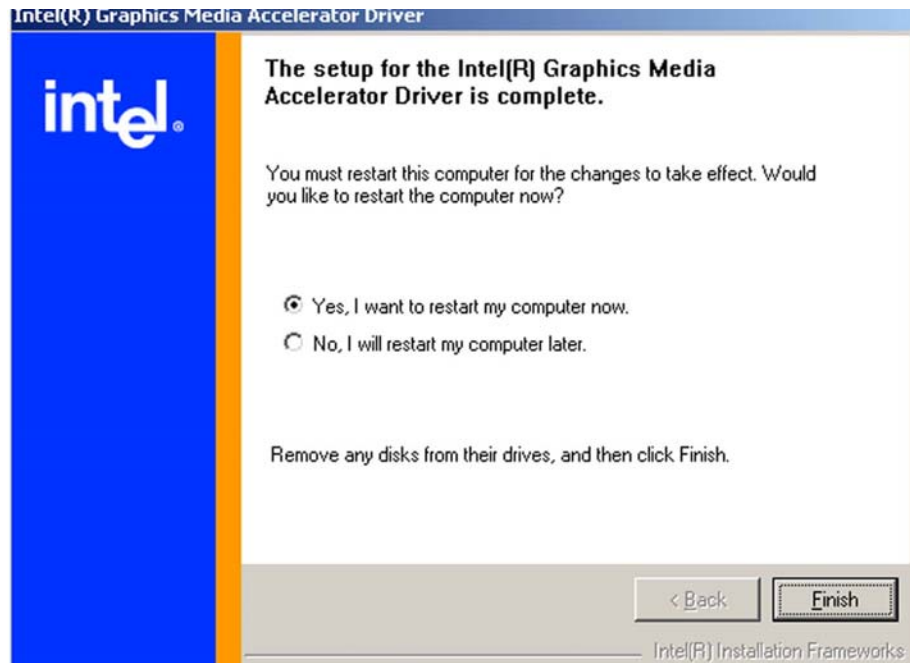

Figure 6-16: GMA Driver Installation Complete
Step 5: After the driver installation process is complete, a confirmation screen shown in **Figure 6-16** appears.
- Step 6:** The confirmation screen shown in **Figure 6-16** allows user to restart the computer immediately after the installation is complete or to restart the computer later. For the settings to take effect the computer must be restarted. Once decided when to restart the computer, click the “**Finish**” button.